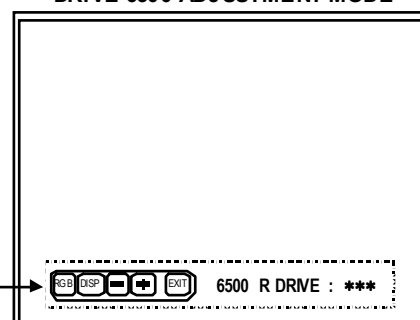

Fig.11
- ① In the WHITE BALANCE menu screen, press the **CONTRAST/BRIGHT** key to enter to the 6500 DRIVE adjustment mode (Fig. 11). In this case, press the **VOLUME/SELECT (-)** key, enter to 9300 DRIVE mode.
- ② Whenever press the **CHROMA/PHASE** key, change the "R DRIVE" or "B DRIVE" adjustment mode.
- ③ **CONTRAST/ BRIGHT** key is the switch of the screen display. If necessary, you can shut off the display. Carefully, values of adjustment items are changed while shut off the screen display.